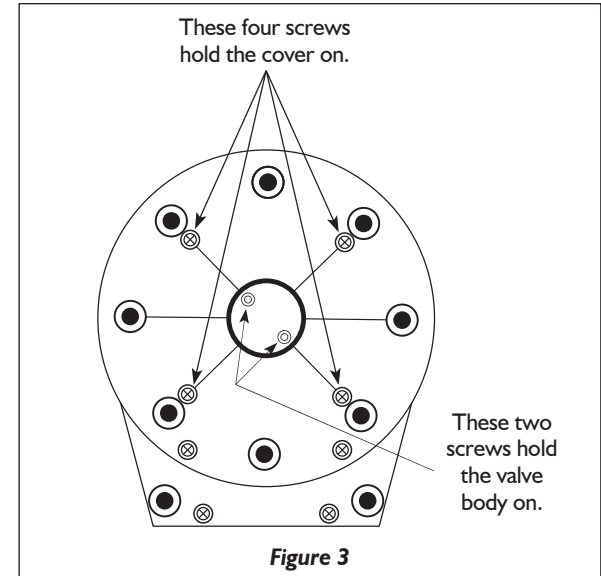

Figure 3
9. Reattach the valve body to the base plate with the two 3/32" hex screws (see Figure 3).
1. Remove the foot control disc. On the bottom of the foot control, locate and remove the four Phillips head screws shown in Figure 3.
4. Turn the foot control over again and remove the two 3/32" hex screws near the center of the base plate (shown in Figure 3).